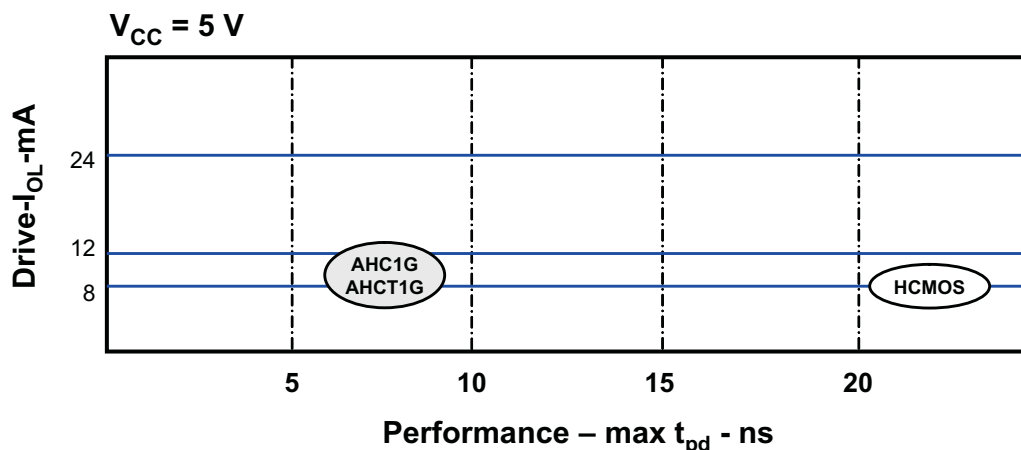

Figure 3. AHC vs HC Performance Comparison
- Speed – The AHC1G offers three times the speed of HCMOS (see Figure 3).